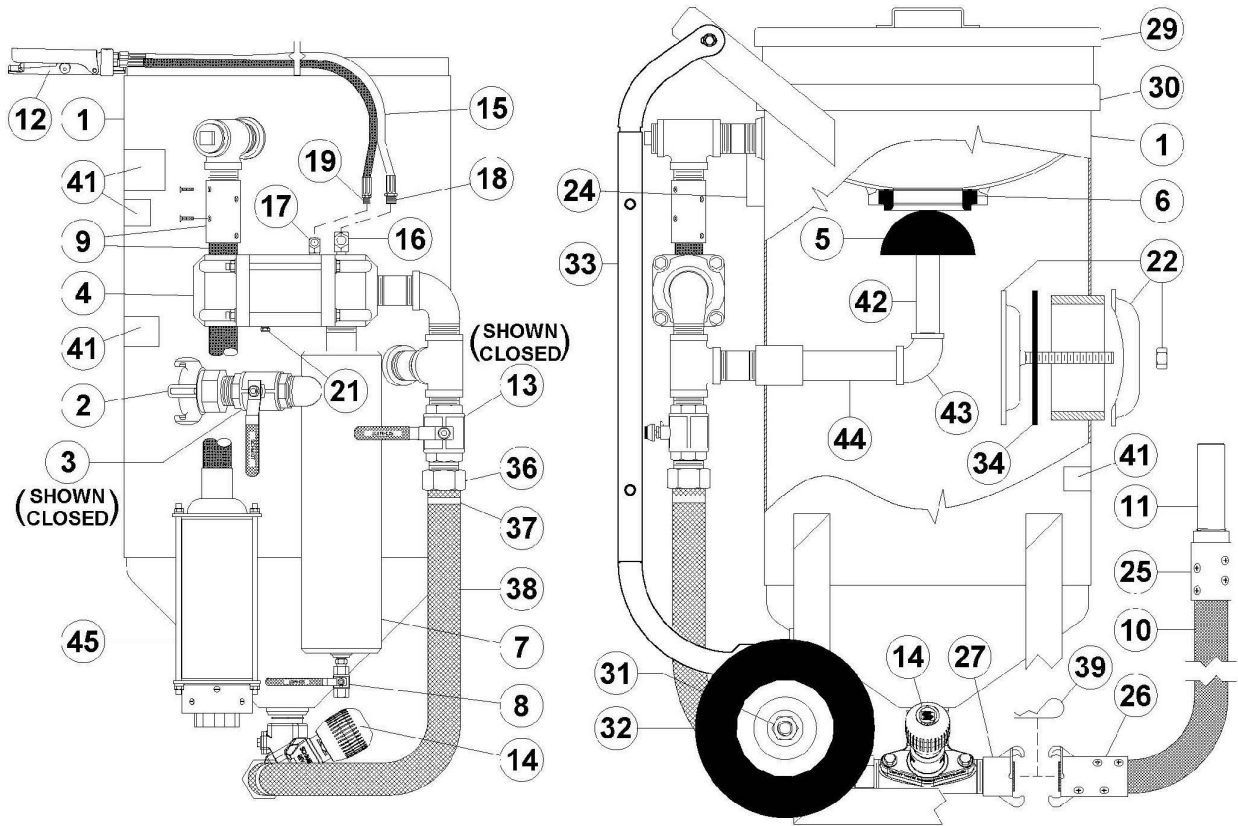

Figure 6.2 – MV3 Valve Abrasive Blaster with pneumatic blast controls
6.1 Abrasive Blaster Setup Procedure (see Figure 6.2)
- 6.2.3. Close the air inlet ball valve (#3) to disable the blaster and the deadman blast control. The ball valve is closed when the handle is fully turned to the position shown in Figure 6.2 (handle perpendicular to body). The handle tab will bottom against the ball valve body in the closed position. **Note:** A faulty ball valve may allow air flow even in the